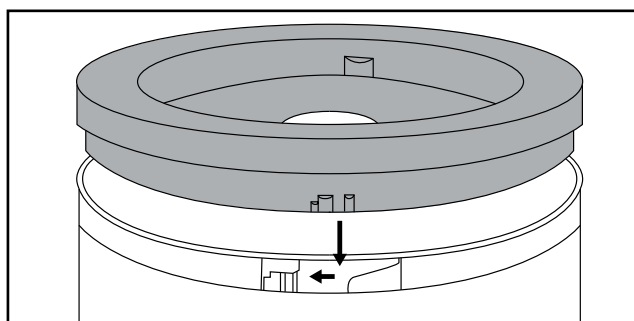

Fig. 1
- Place it onto the bowl **8** so that the tabs on the outer rim of the connecting piece **4** grip into the catches on the bowl **8** (see figure 1).